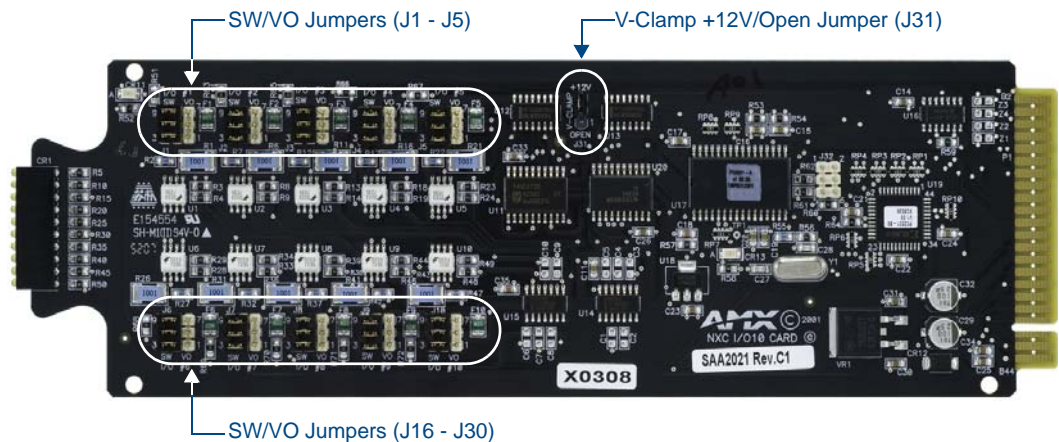

FIG. 4 NXC-I/O10 Control card
The NXC-I/O10 Input/Output Control Card (**FG2021**) provides 10 Input/Output channels and LED feedback. It acts as a logic-level input and responds to switch closures or voltage level (high/ low) changes. The Switch (SW) and Voltage (VO) modes are set with on-board jumpers. FIG. 4 shows the I/O10 card.